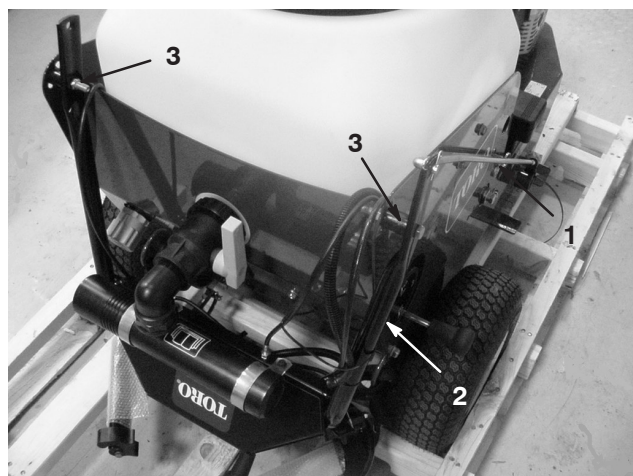

Figure 2
1. Remove the hairpin cotter, washer and cable tie securing the shift rod for shipping (Fig. 2). Retain hairpin cotter and washer for installation of the shift rod.
2. Remove the (2) bolts, spacers and nuts securing the handle to the tank support (Fig. 2). Discard the bolts, spacers and nuts.